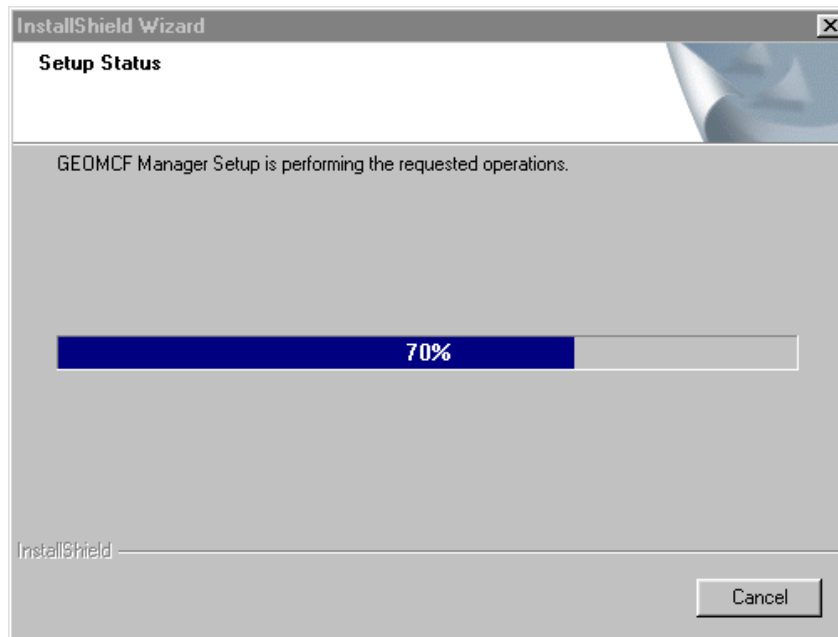
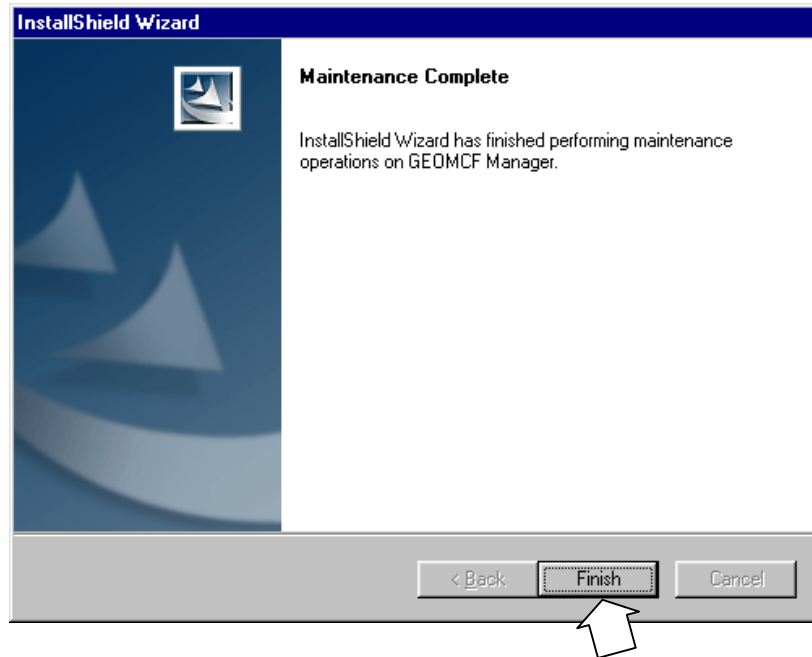

Figure 1-20
Figure 1-21
2. Click on **OK** on the **Confirm Uninstall** window to delete GEOMCF Manager software including all of its components. The InstallShield Wizard performs the required operations as it displays the “Setup Status” window (figure 1-20), then the **Maintenance Complete** window is displayed (figure 1-21). Click on **Finish** in the “Maintenance Complete” window to close the Installation Wizard.
To reinstall all components of a currently installed version of GEOMCF Manager, select the **Repair** radio button and click on the **Next >** button. The Installation Wizard performs the required operations, then displays the “Maintenance Complete” window (refer back to figure 1-21). Click on **Finish** in the “Maintenance Complete” window to close the Installation Wizard.